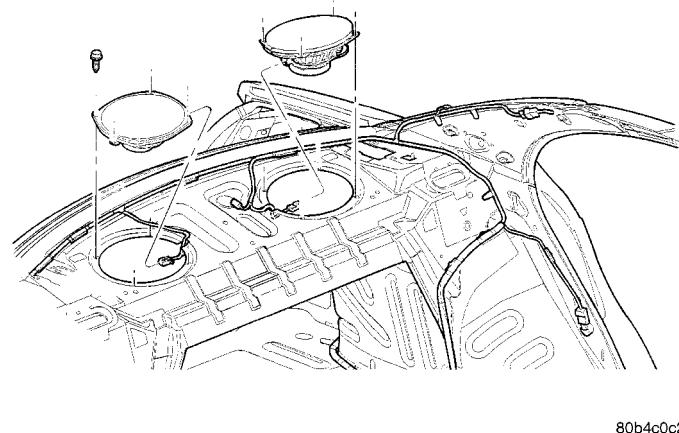

Fig. 8 Rear Shelf Speaker(s) Remove/Install
(1) Disconnect and isolate the battery negative cable.
(2) Remove Rear Seat Cushion. (Refer to 23 - BODY/SEATS/SEAT CUSHION - REMOVAL).
(3) Remove rear seat back. (Refer to 23 - BODY/SEATS/REAR SEAT BACK - REMOVAL).
(4) Remove rear shelf panel. (Refer to 23 - BODY/INTERIOR/REAR SHELF TRIM PANEL - REMOVAL).
(5) Remove four speaker retaining screws (Fig. 8).
(6) Remove speaker and disconnect wire connector.
(7) Remove speaker(s) from vehicle.